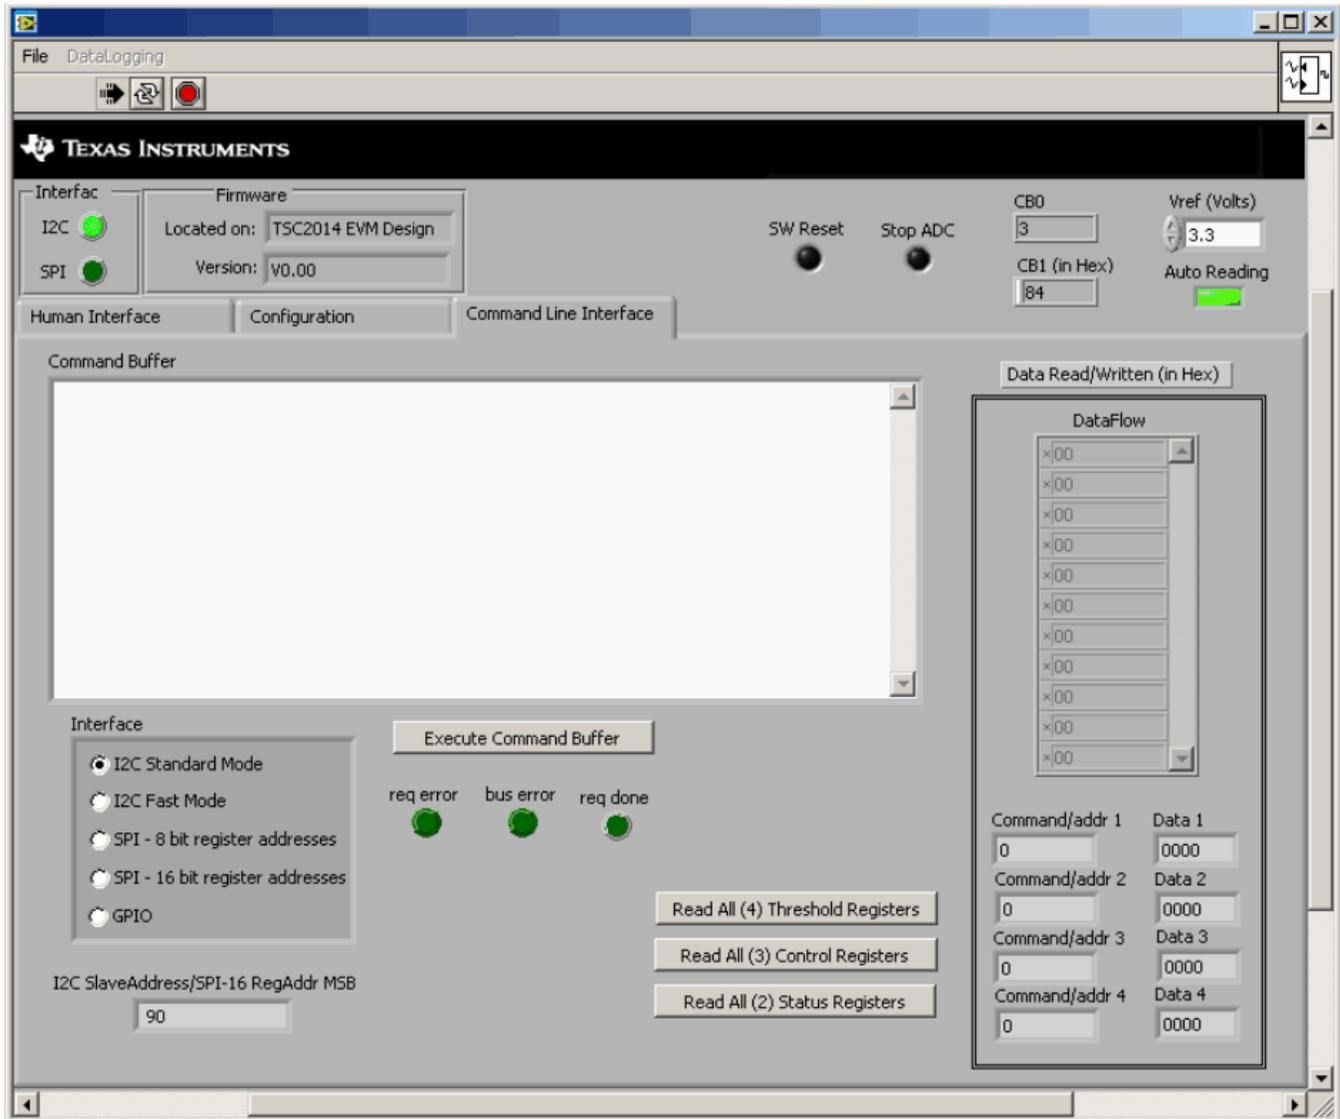
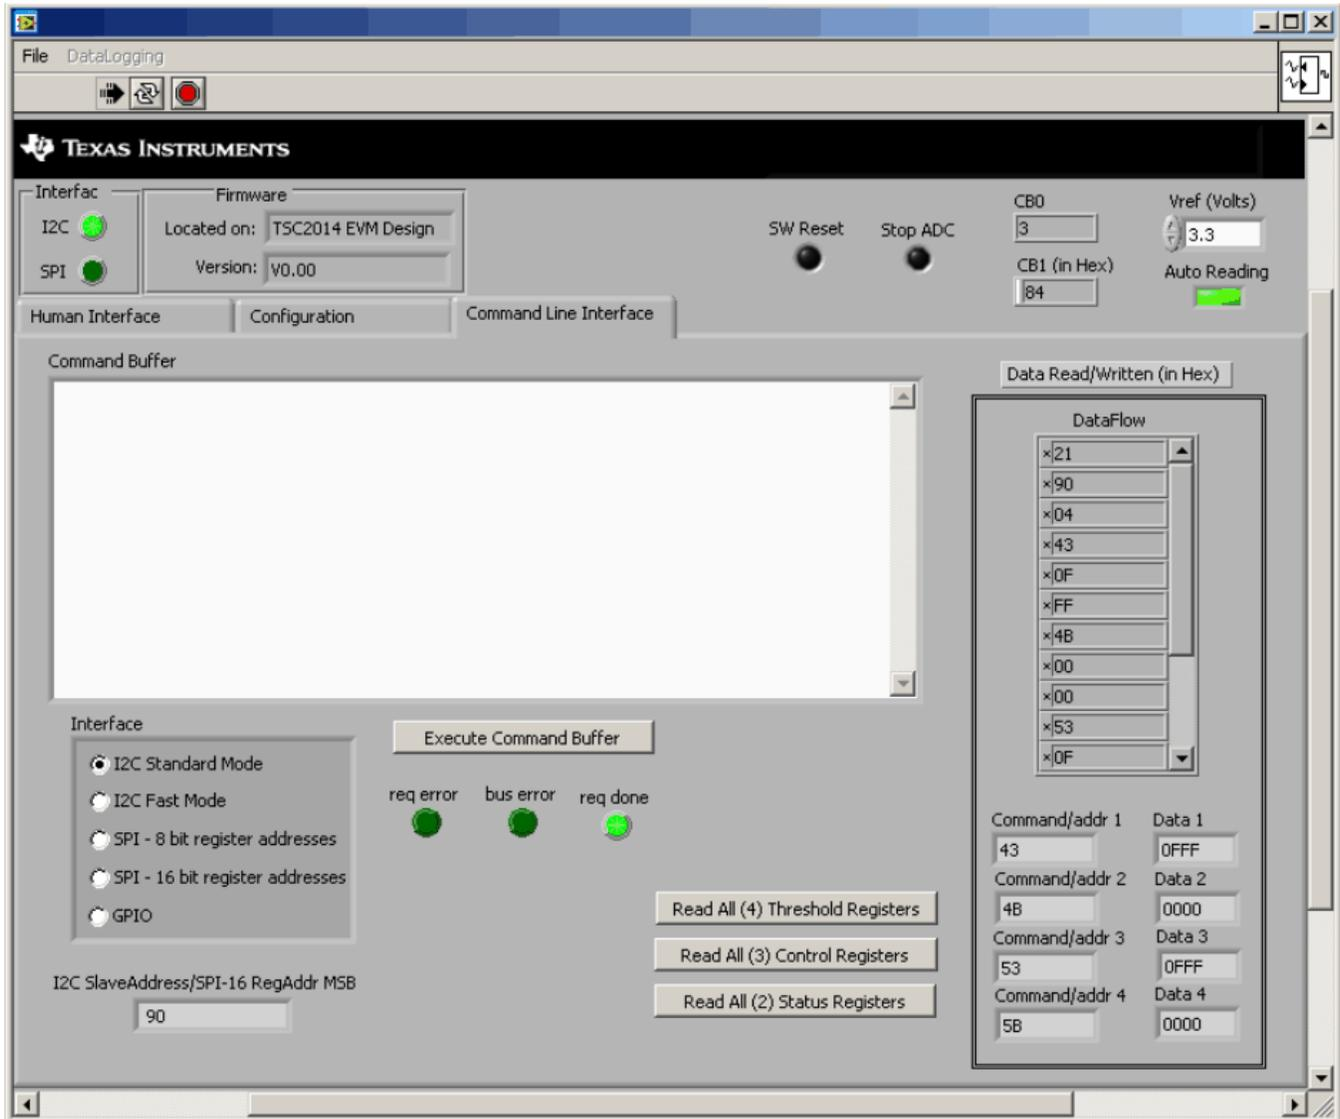

Figure 5. TSC2014EVM-PDK Software GUI: Command Line Interface Tab
Figure 6. TSC2014EVM-PDK Software GUI: Read All Threshold Registers Option
Clicking on the *Command Line Interface* tab brings up a screen similar to that shown in Figure 5, which provides a flexible way to read from and write to the TSC2014EVM by the use of scripts.
As Figure 6 shows, three read buttons reveal the contents of the Threshold, Control, and Status Registers of the TSC2014; these contents are also displayed in the *Data Read/Written* section of the screen. The data flow shows at the top of the screen, and is interpreted and listed correspondingly on the button. For example, Figure 5 shows a read result of the four TSC2014 threshold registers after clicking on the **Read All (4) Control Registers** button.